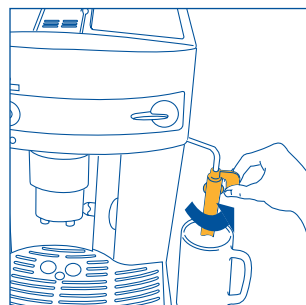
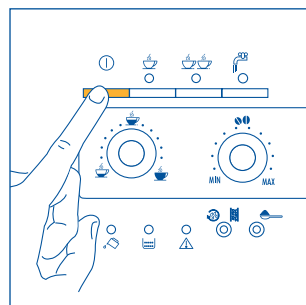
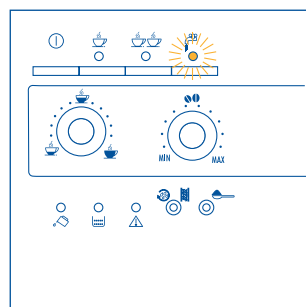

Fig.3
Fig.4
Fig.22
2. Move the milk frother towards the outside and place a cup underneath (Fig.3). Then turn the machine on by pressing the ① button (Fig.4).
- Turn the cappuccino frother towards the outside of the machine (Fig. 3).
- Position a container underneath the milk frother (Fig. 3).
- Move the cappuccino frother outwards (fig. 3).
- Place an empty container under the cappuccino frother (fig. 3). Turn the steam knob a half turn counter-clockwise as far as it will go (the light flashes fig. 22). Run off the steam mixed with water for a few seconds until only steam is given off.